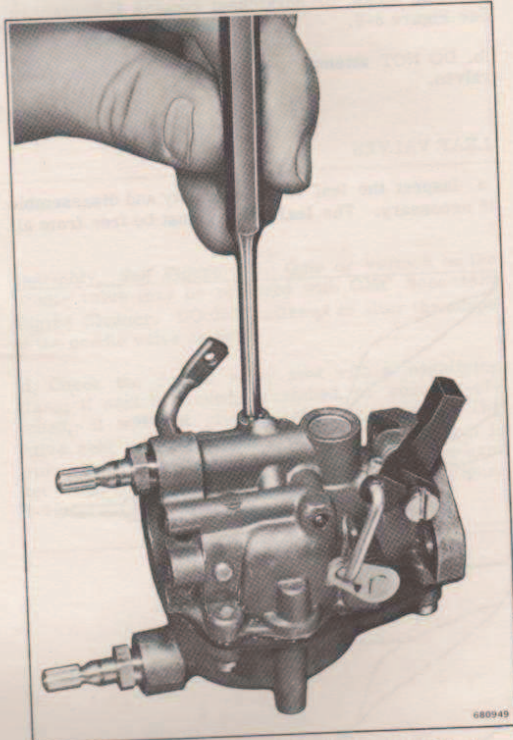

Figure 3-12. Re-Seating and Installing Lead Shot
a. If leakage is slight, a smart tap with a hammer in the center of the lead shot will normally correct this condition. See Figure 3-12.